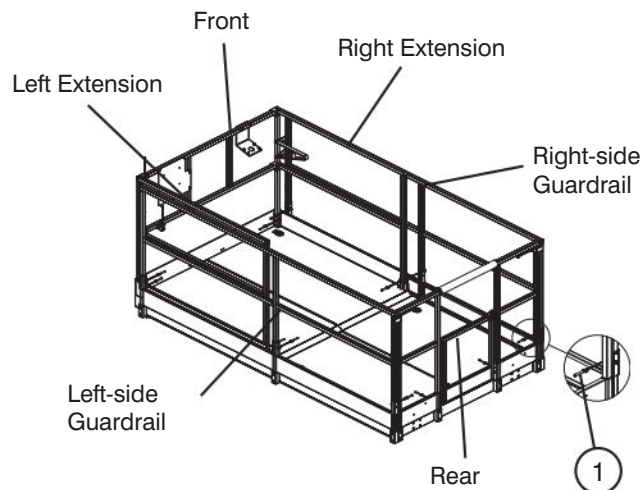

Figure 2-23. Folding Guardrail System
7. Fold down guardrails in the following order: rear, front, left extension, right extension, left-side and right-side (refer to Figure 2-23).